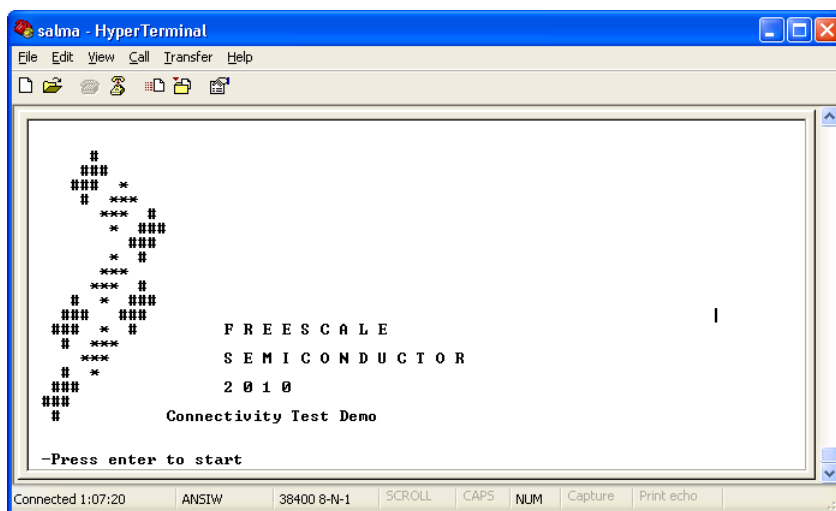

Figure 3-1. Starting the Connectivity Test
3. Press the Reset button once on both boards. The terminal displays text as shown in Figure 3-1.